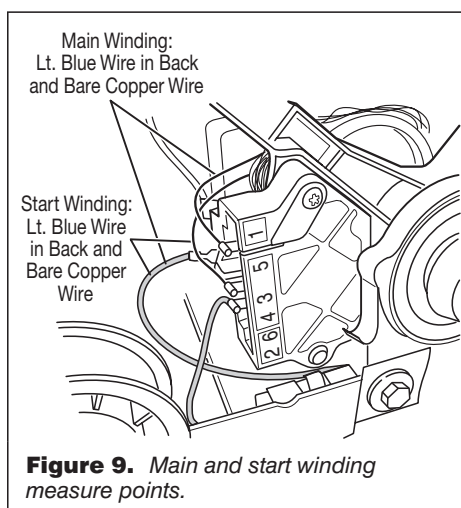

Figure 9. Main and start winding measure points.
6. Using figure 9, check for the resistance values of the motor's Main and Start winding coils as shown in the following table.